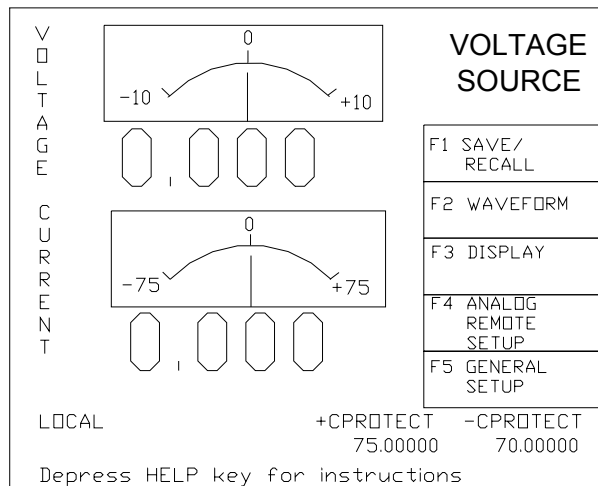
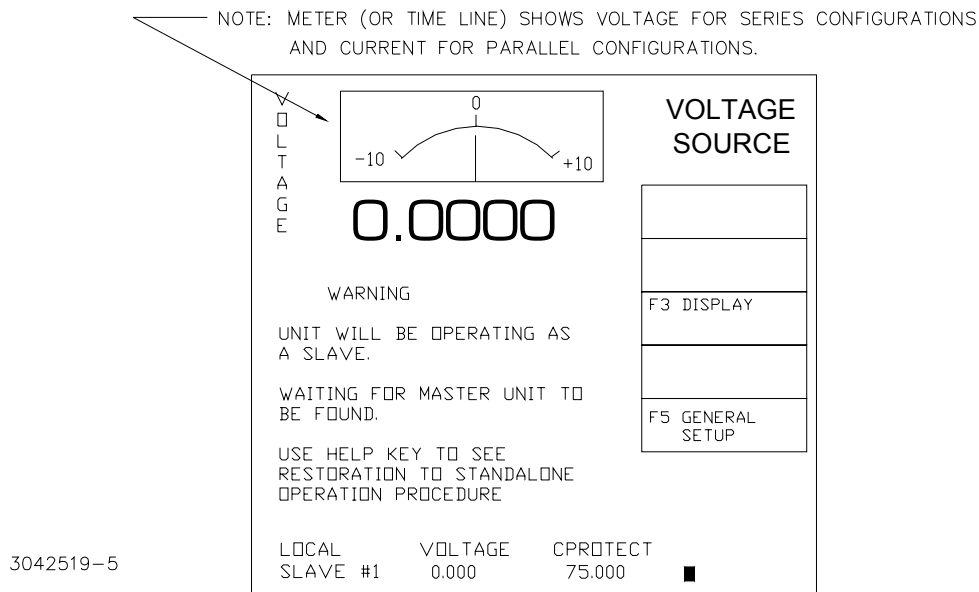

FIGURE 2-10. POWER ON DEFAULT SCREEN FOR MASTER UNIT
FIGURE 2-11. POWER ON DEFAULT SCREEN FOR SLAVE UNIT
If all the slaves are recognized as ready, after about 15 seconds maximum the master LCD reverts to the Power On Default screen (see Figure 2-10). The slaves display the Slave Power On Default screen (see Figure 2-11), except the unit will be in Current Mode for parallel configurations and Voltage mode for series configurations and the message will indicate the unit is operating as a slave. The slave number appears at the lower left of the display. For instructions to return the slave to standalone operation, refer to PAR. 2.8.6. The fault indicators on all units are off.
- When a slave is turned on, the unit initially displays the Slave Power Up screen (Figure 2-11), the Fault indicator is lit, and the unit continues to beep once a minute until the master is found. For instructions to return the slave to standalone operation, refer to PAR. 2.8.6. Once the slave is up and running, the **F1** key indicates LOCKOUT and the **F3** key shows DISPLAY (see PAR. 3.2.5).
- When the master finally recognizes all the slaves, the master LCD reverts to the Power On Default screen (see Figure 2-10). The slave(s) display the voltage meter (for series configurations) or current meter (for parallel configurations), and the message indicates the unit is operating as a slave with slave number shown at lower left corner. The fault indicators on all units are off.